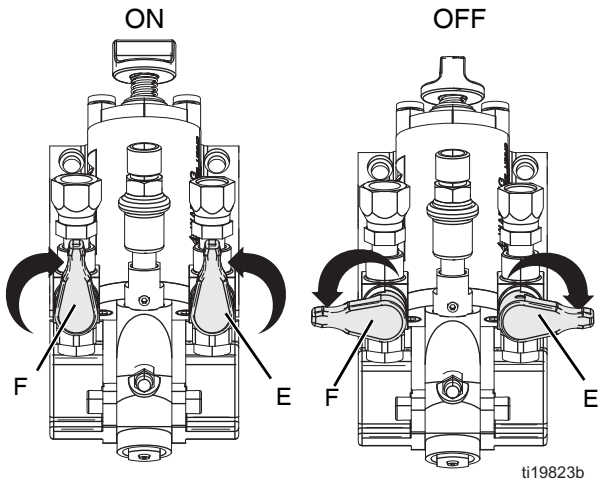

FIG. 5 Shutoff Valves
- Close the material shutoff valves. See FIG. 5.
- Close the material shutoff valves (E, F). See FIG. 5.